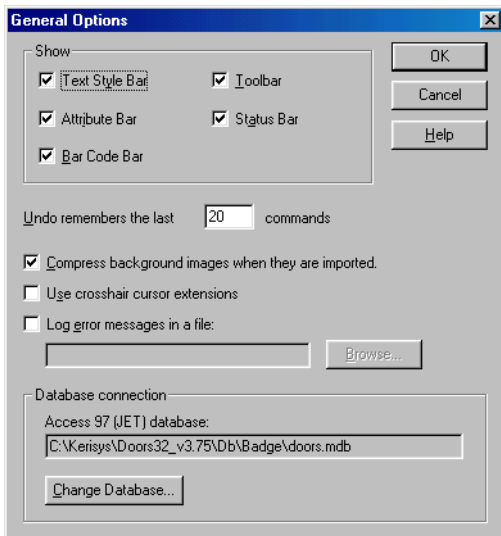

Figure 3: GuardDraw General Options
2. Click the View ⇒ Options pull-down menu. The General Options window appears (see Figure 3).
3. At the bottom of the window is the “Database connection” field. Verify the “Access97 (JET) database” value is set to C:\Kerisys\Doors32_vX.XX\Db\Badge\doors.mdb¹ (see Figure 3).